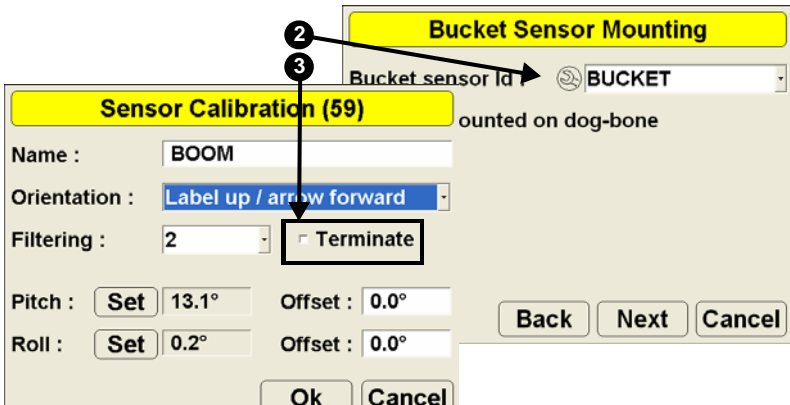

Figure A-26. Set CAN Termination for Last Sensor (Bucket Sensor)
2. Tap the Wrench button for the sensor furthest from the GX-60 (Figure A-26).
3. Select and turn on Terminate (Figure A-26).